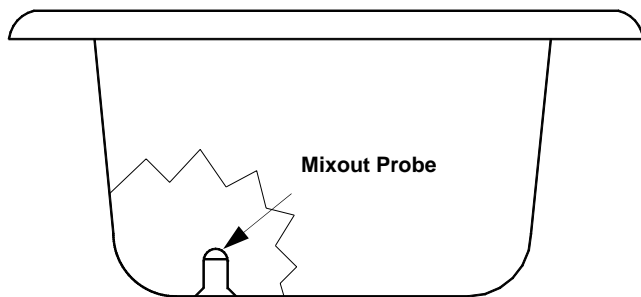

Fig. 20
3. **DO NOT** apply lubrication to the Mix out probe located in the mix pan - see Fig. 20.